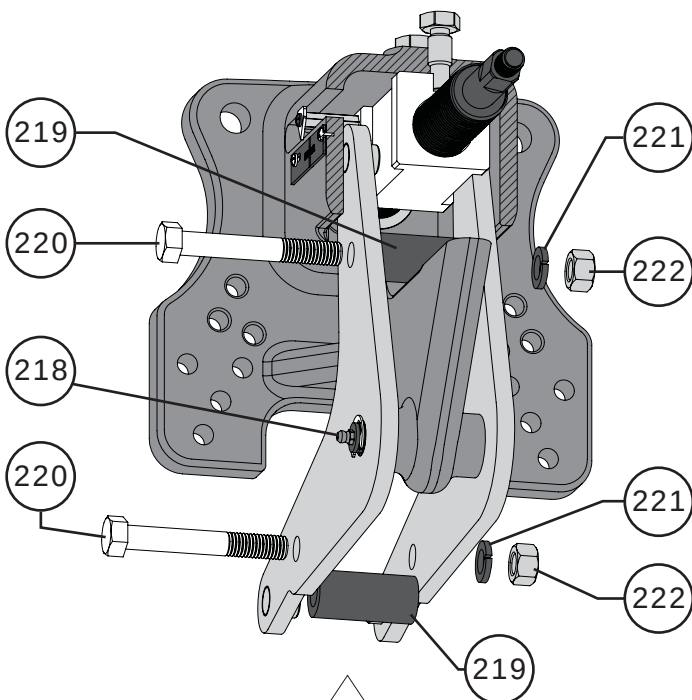

Figure 68 *Spacer Installation*
- 15** Set the right lever (Key 214) (right and left levers are marked with either a 'L' or 'R') into the groove of the operating nut (Key 206) and secure it in place by sliding the lever pivot pin (Key 216) zerk fitting first through the lever and into the handwheel body (Key 200). Refer to Figure 68.